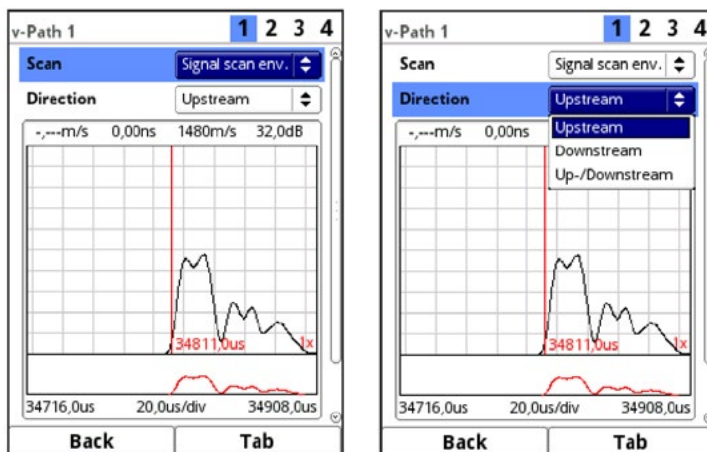

Fig. 44-3 Signal scan envelope
- **>Signal scan env.<** (Fig. 44-3)